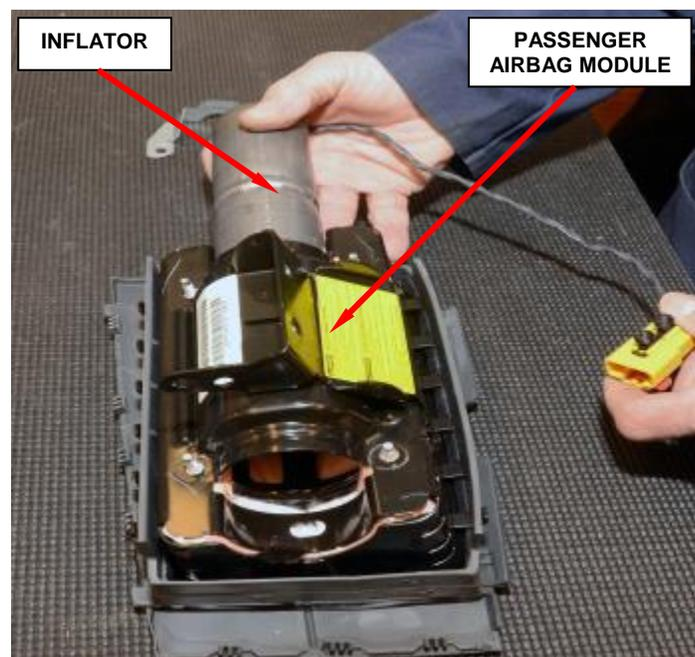

Figure 56 – Inflator Removal
f. Slide the inflator out of the passenger airbag module (Figure 56).